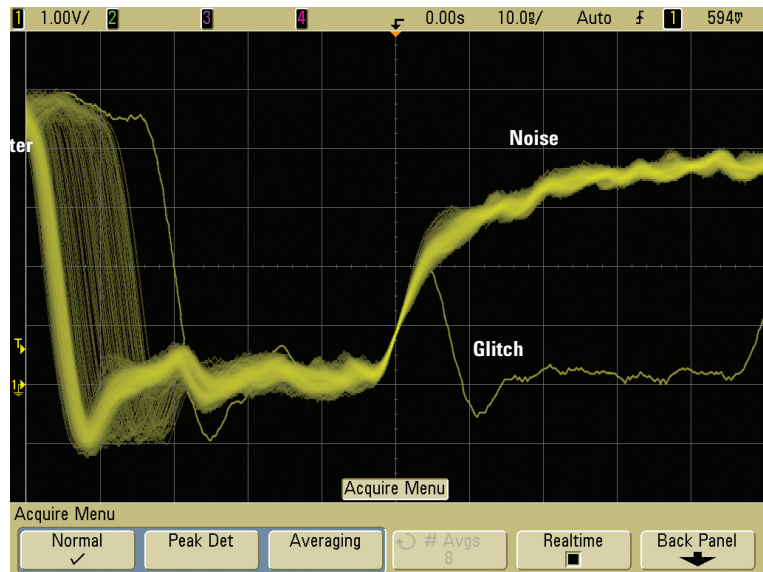

Figure 8. Display intensity gradation shows characteristics of jitter, noise, and signal anomalies on a Keysight InfiniiVision Series oscilloscope
Figure 8 shows an example of a digital signal that includes timing jitter (near the left side of screen), vertical noise (top and bottom of waveform), and a very infrequent glitch (near the center of screen). Because of the relative dimness of the displayed glitch, we know that this particular glitch occurs very infrequently. We can also see that the nature of the jitter is very complex and probably includes a large component of deterministic jitter (DJ). If the dispersion of display intensity on the signal's edge appeared to be Gaussian in distribution, we would suspect that the jitter might be dominated by random jitter (RJ). For a more in-depth discussion on the different types of jitter, refer to application note, "Jitter Analysis," listed at the end of this document.